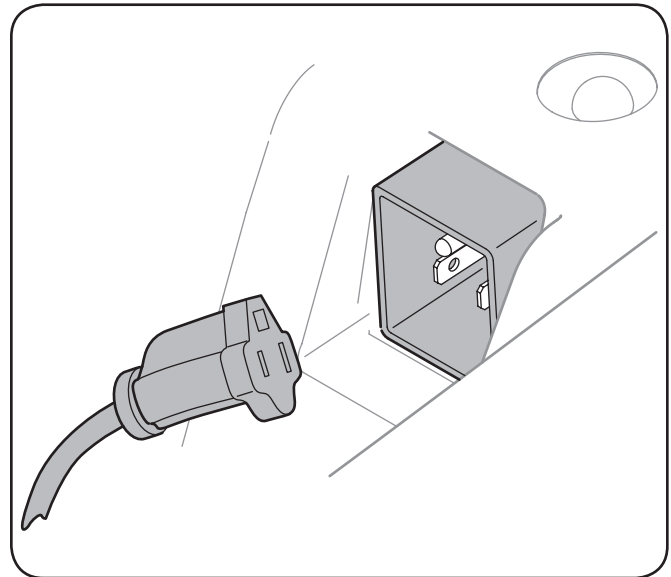

Figure 5-2
3. Plug the extension cord into the electric outlet located on the plastic shroud. Plug the other end of extension cord into a three-prong 120-volt, grounded, AC outlet in a well-ventilated area. See Fig. 5-2.